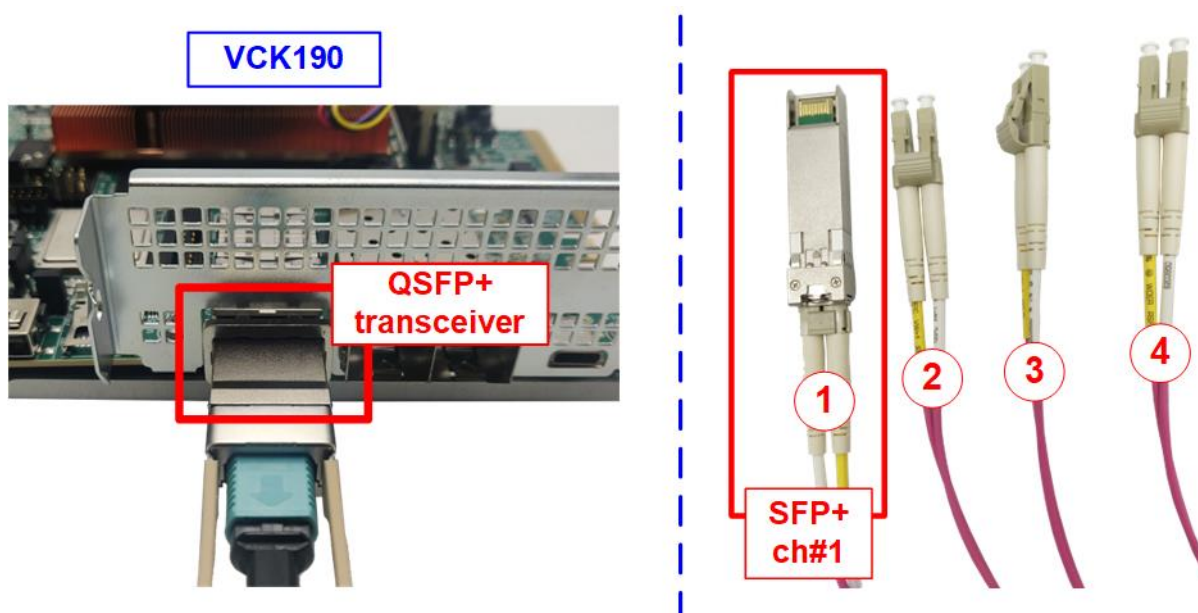

Figure 2-4 10G connection by using QSFP28 to 4xSFP28 Cable
- b) For VCK190: Use a QSFP+ to SFP+ cable, connecting QSFP+ to FPGA and SFP+ no.1 to the PC's 10G Ethernet card, as shown in Figure 2-4.